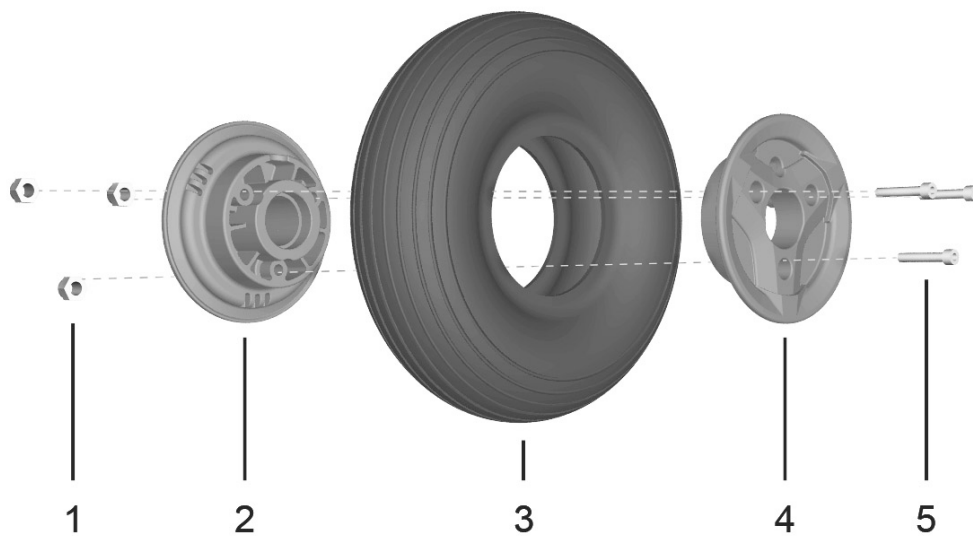

Figure 44. Rim with tire.
4. Remove the three bolts with nuts which holds the inner and outer parts of the rim together, see fig. 44.